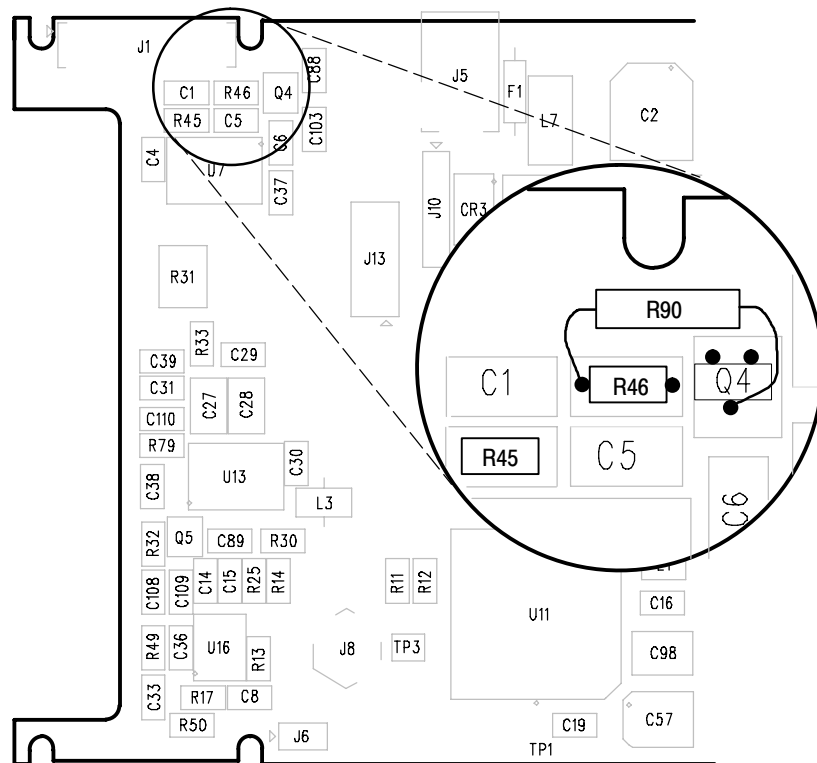

Figure 4: Partial Main circuit board (TSG601) showing location of changed parts
1. Remove R90 (470 Ω resistor). See Figure 4 for location.
1. Replace R45 with the 15 k Ω resistor provided in the kit. See Figure 4 for location.